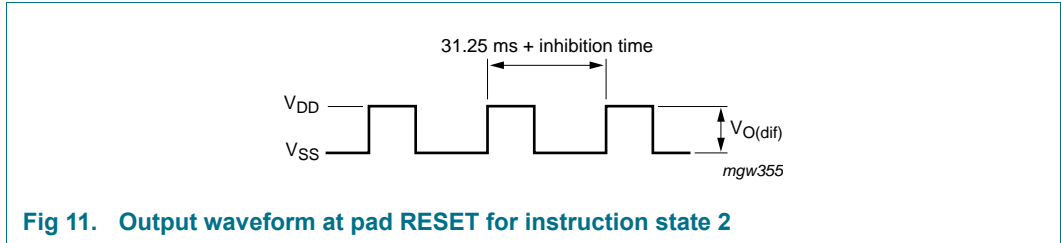
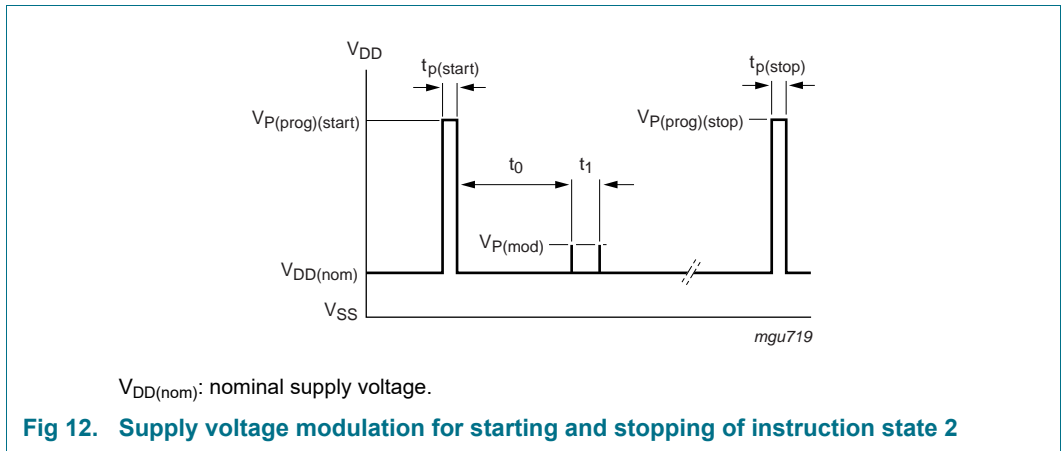

Fig 11. Output waveform at pad RESET for instruction state 2
Fig 12. Supply voltage modulation for starting and stopping of instruction state 2
Each instruction state is switched on with a pulse to  $V_{P(prog)(start)}$ . After this large pulse, an initial waiting time of  $t_0$  is required. The programming instructions are then entered by modulating the supply voltage with small pulses (amplitude  $V_{P(mod)}$  and pulse width  $t_{mod}$ ). The first small pulse defines the start time, the following pulses perform three different functions, depending on the time delay ( $t_d$ ) from the preceding pulse (see Figure 7, Figure 8, Figure 11 and Figure 12):
- State 2: inhibition time has a value of  $n \times 0.122$  ms. A signal with periodicity of  $31.25$  ms +  $n \times 0.122$  ms appears at pad RESET and as current modulation at pad  $V_{DD}$  (see Figure 11 and Figure 12)
See Figure 7, Figure 8 and Figure 12.